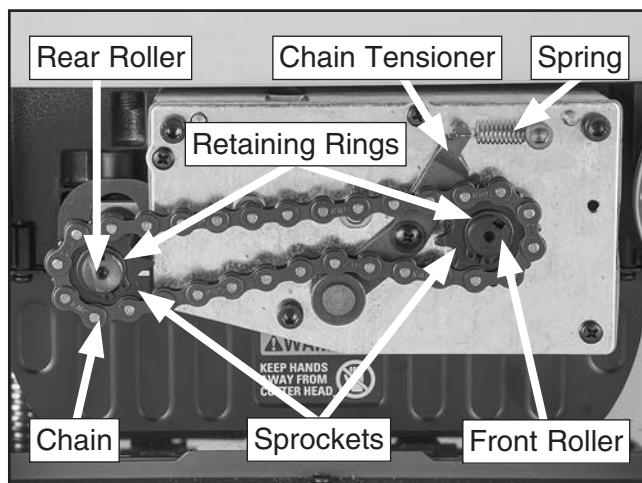

Figure 5. Gearbox area components.
7. Remove external retaining rings on front and rear rollers (see **Figure 5**).
8. Remove spring from chain tensioner (see **Figure 5**).
9. Remove sprockets and chain (see **Figure 5**).
10. Remove spacer on front roller (see **Figure 5**).